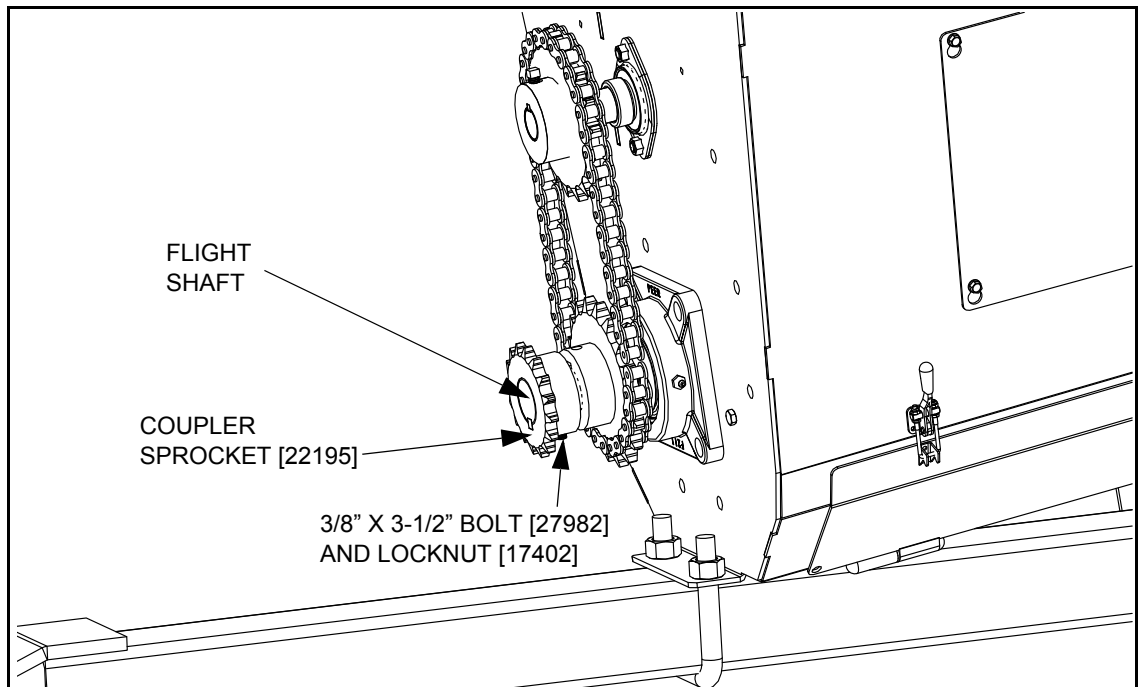

Figure 3 Installing Coupler Sprocket on Flight Shaft
2. Slide the unconnected coupler sprocket onto end of the flight shaft with the outside face of the sprocket flush with end of the shaft, then secure using a 3/8" x 3-1/2" bolt and locknut (see Figure 3).